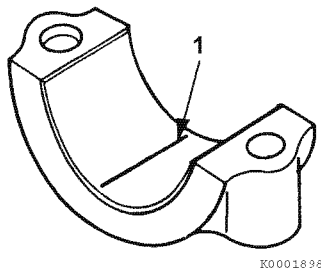

Figure 5-110
3. Place a piece of PLASTIGAGE® (1, **Figure 5-110**) along the full width of the bearing insert.